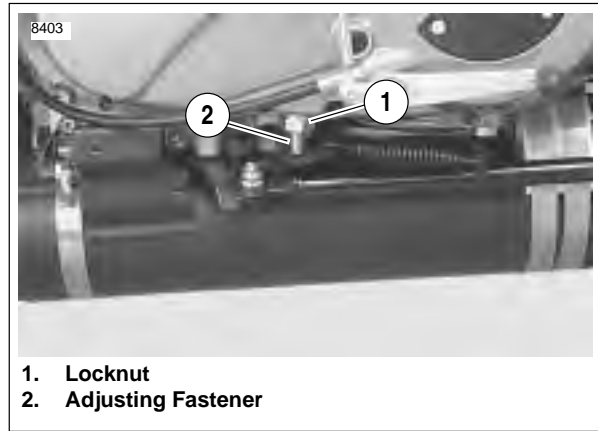

Figure 1-33. Chain Tension Adjusting Fastener
1. See Figure 1-33. Loosen locknut (1).
2. Turn adjusting fastener (2):
3. Tighten locknut (1) to 20-25 ft-lbs (27-34 Nm).